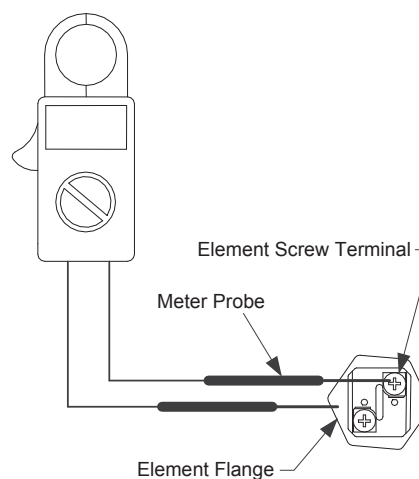

Figure 5
- Step 5. Touch one probe of multi-meter to either screw terminal of heating element and the other on the element flange (see figure 5). There should be no reading on the ohm meter. Any reading indicates a grounded element and the element must be replaced. Repeat this step for the other screw terminal.